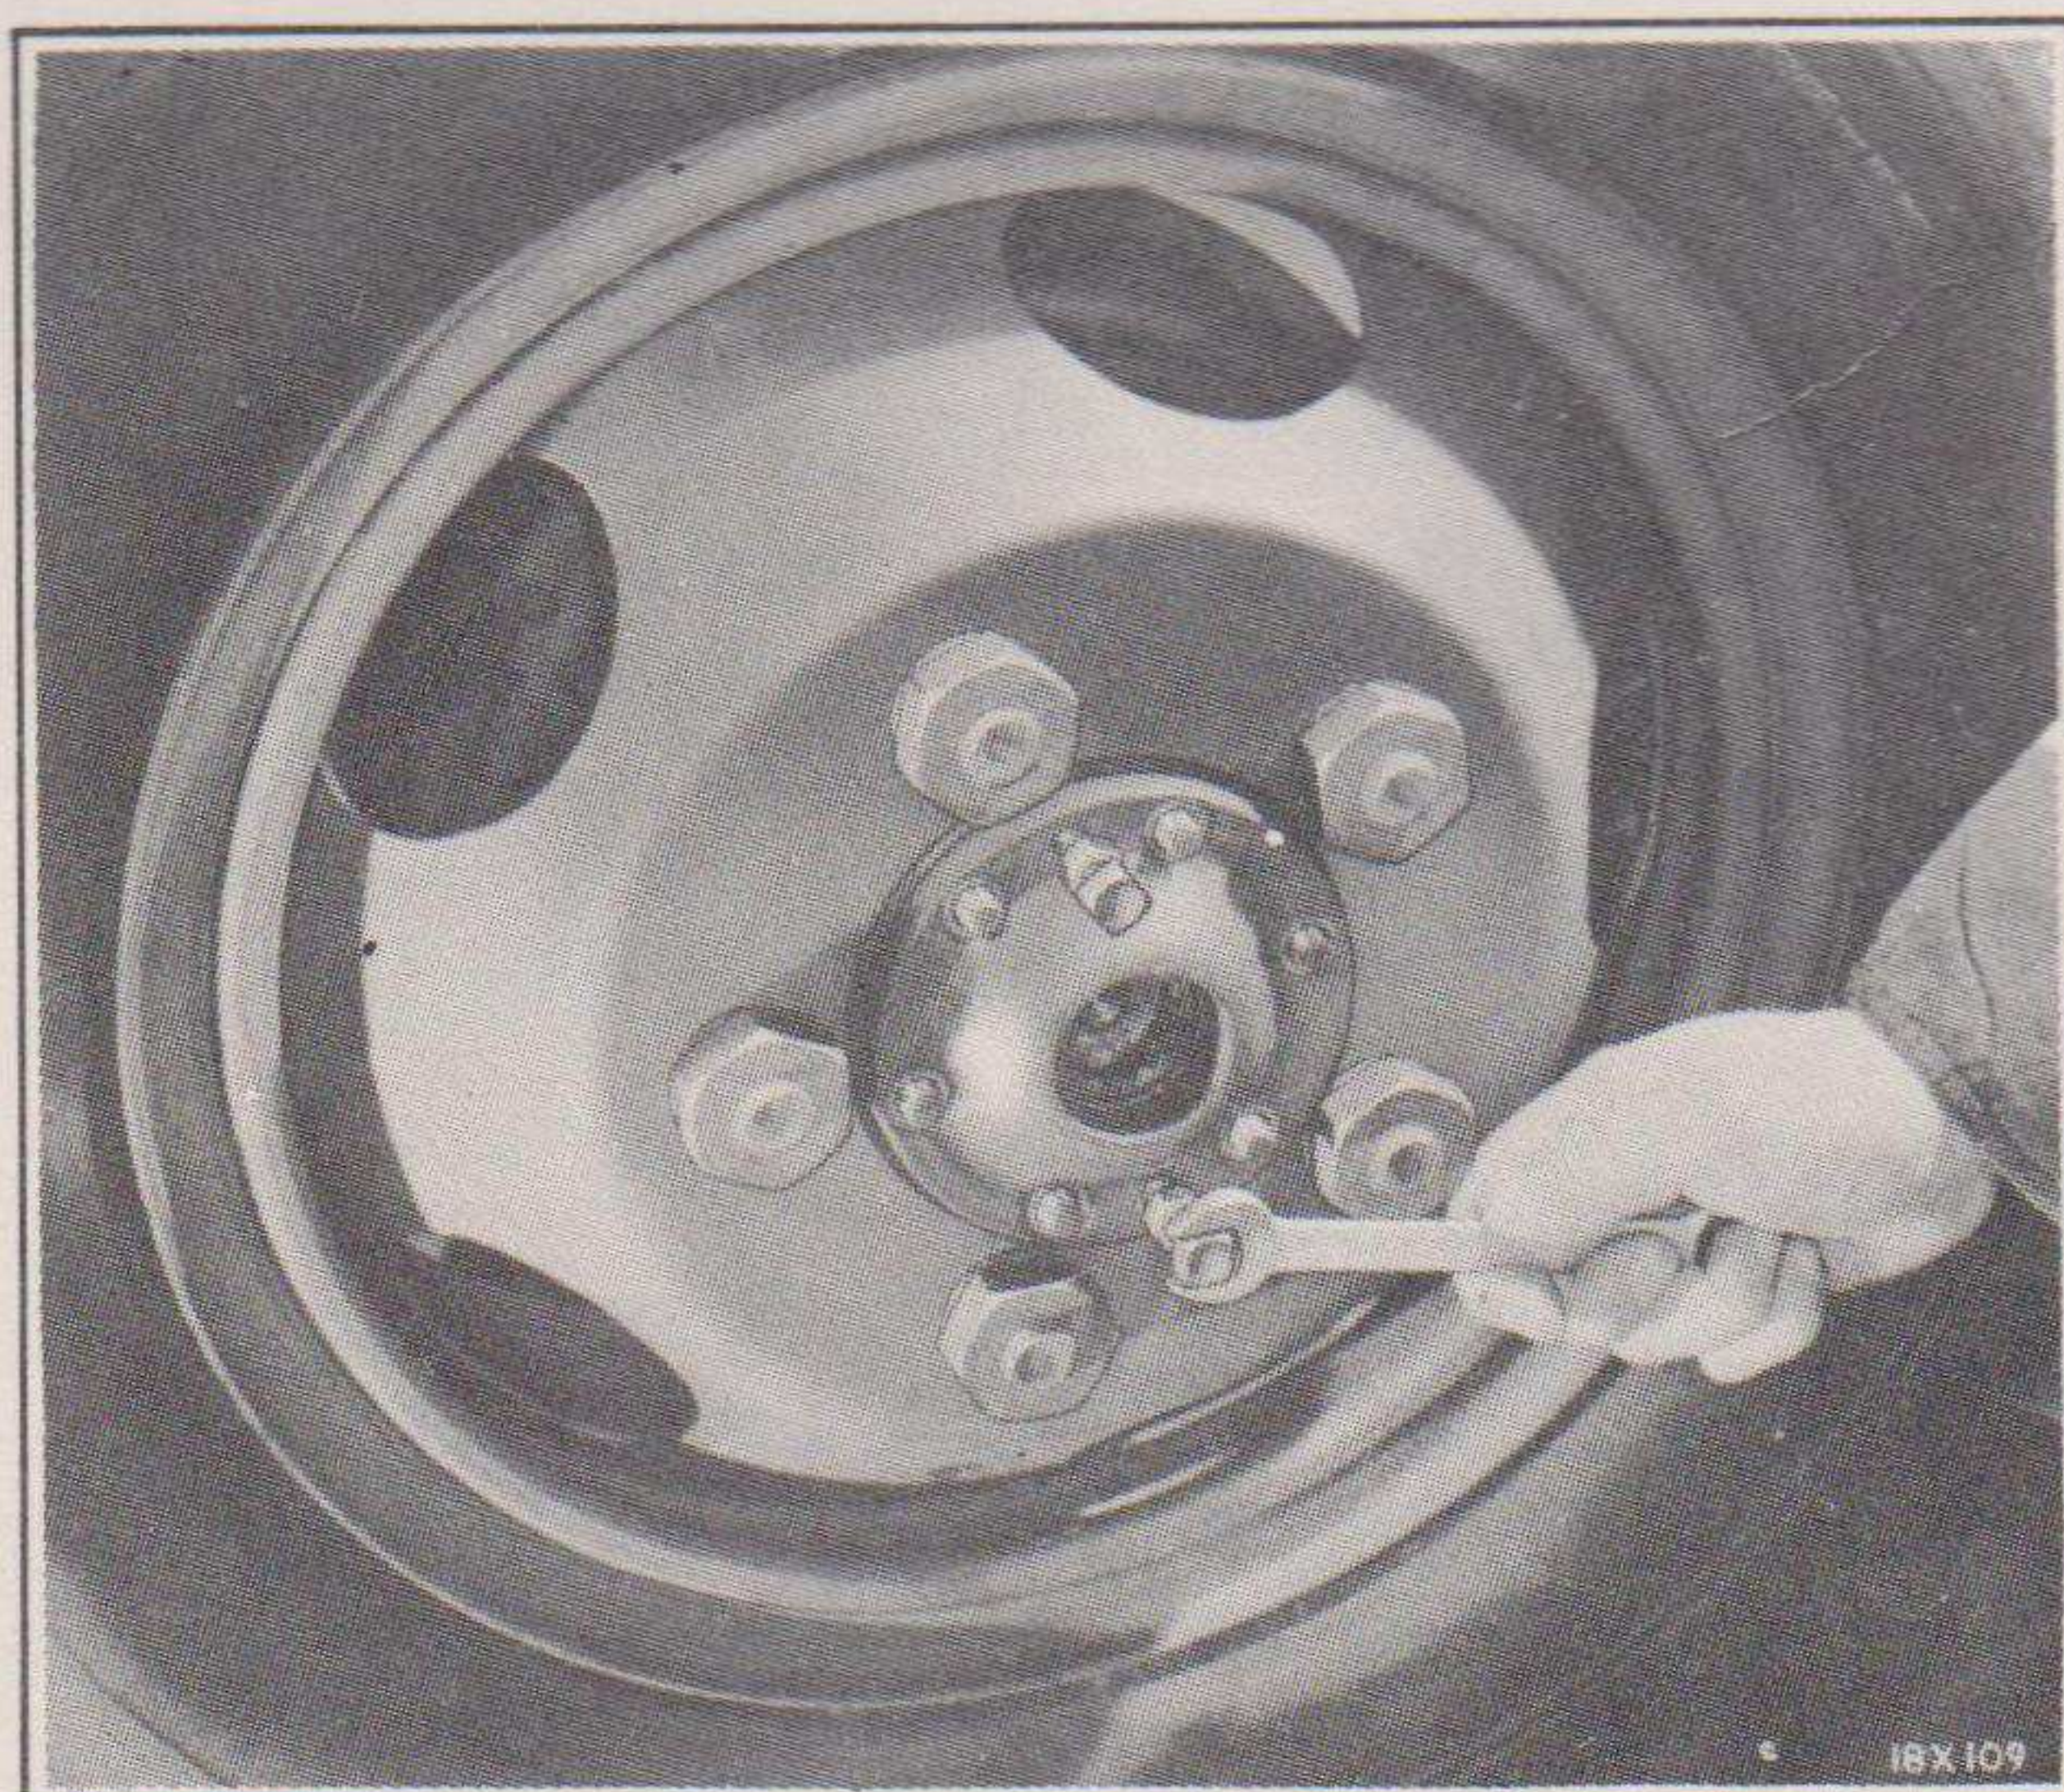

Fig. 34—Removing Drive Flange with Puller Screws
- (e) Pull out the hub drive flange by loosening the lock nuts on the two pusher screws in the flange and turning the screws in as shown in Fig. 34.